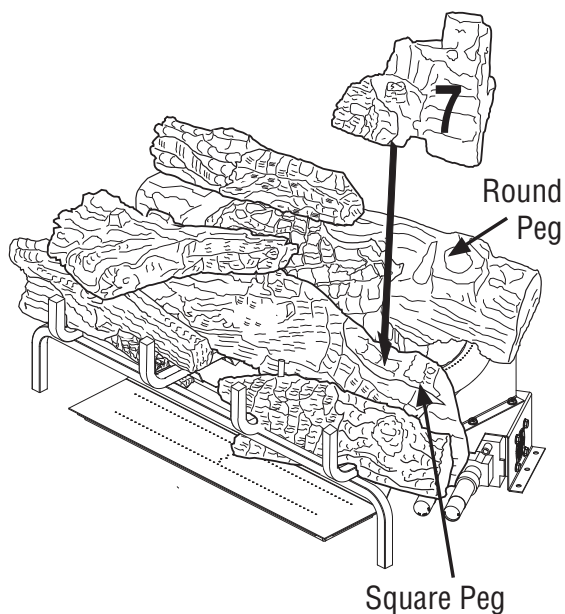

Figure 27 - Installing Log # 7
- Place the right rear chunk log (#7) on top of the middle log (#2) and rear log (#1) as shown in **Figure 27**. Match the round peg on the top of the rear log (#1) with the round hole on the bottom of the right rear chunk (#7) log and square peg on the top of the middle log (#2) with the square hole on the bottom of the right rear chunk log (#7).